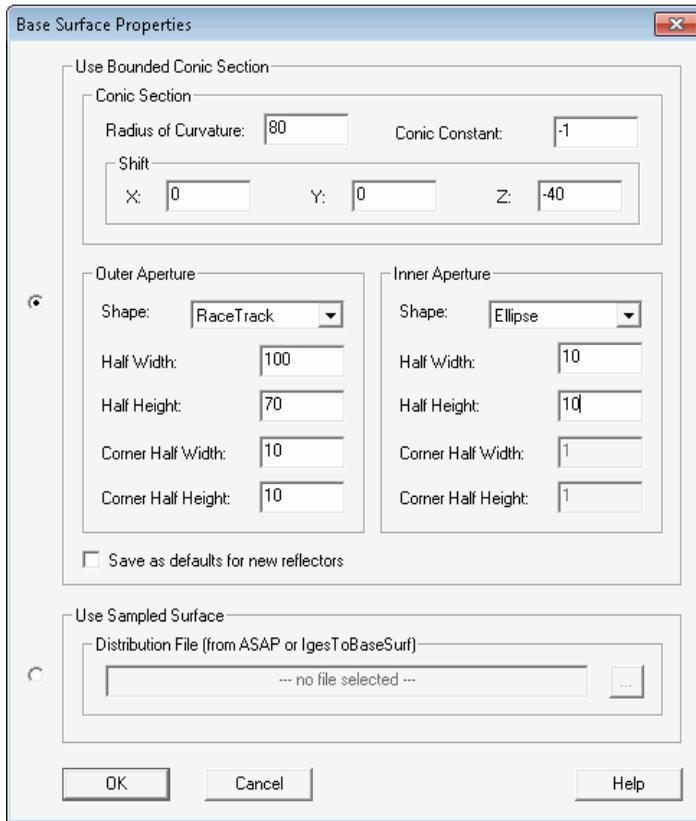

Figure 1.6 Setting the base surface properties
- Click **Setup, Base Surface Properties**, complete the dialog box, as shown in Figure 1.6, and click **OK**.